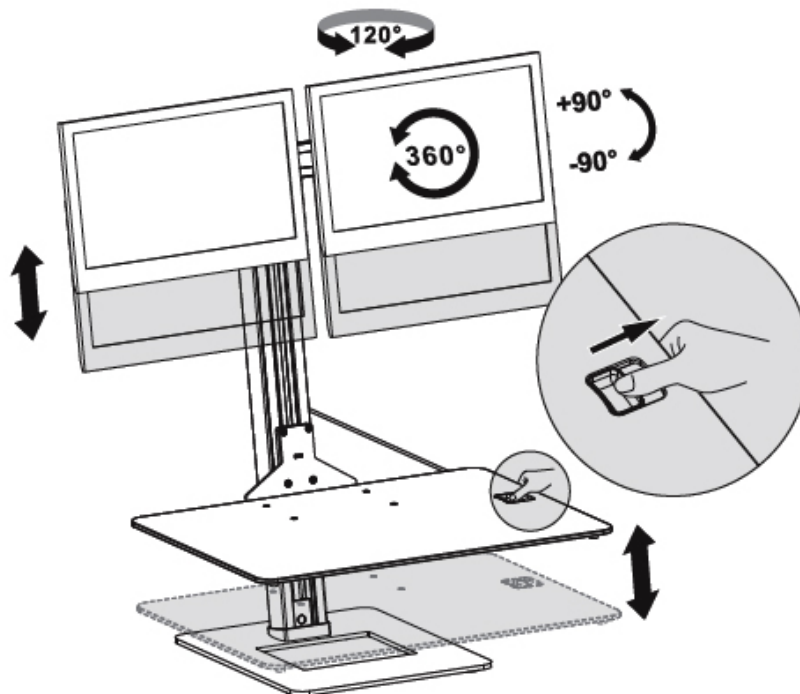

Figure 11
2. Adjust the tilt angle, height and orientation to the desired position, see Figure 11.